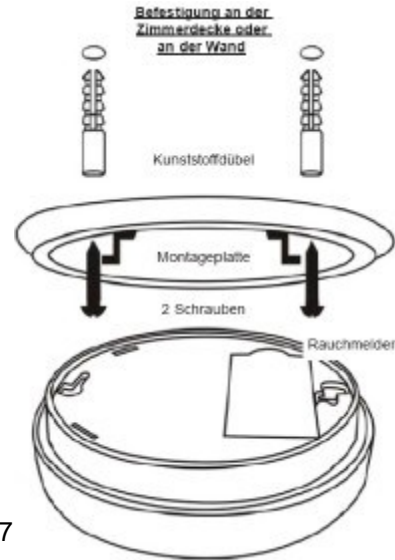

Figure 7
- Position the mounting plate appropriately and fasten the plate with the two screws (see Fig. 7) in the dowels.